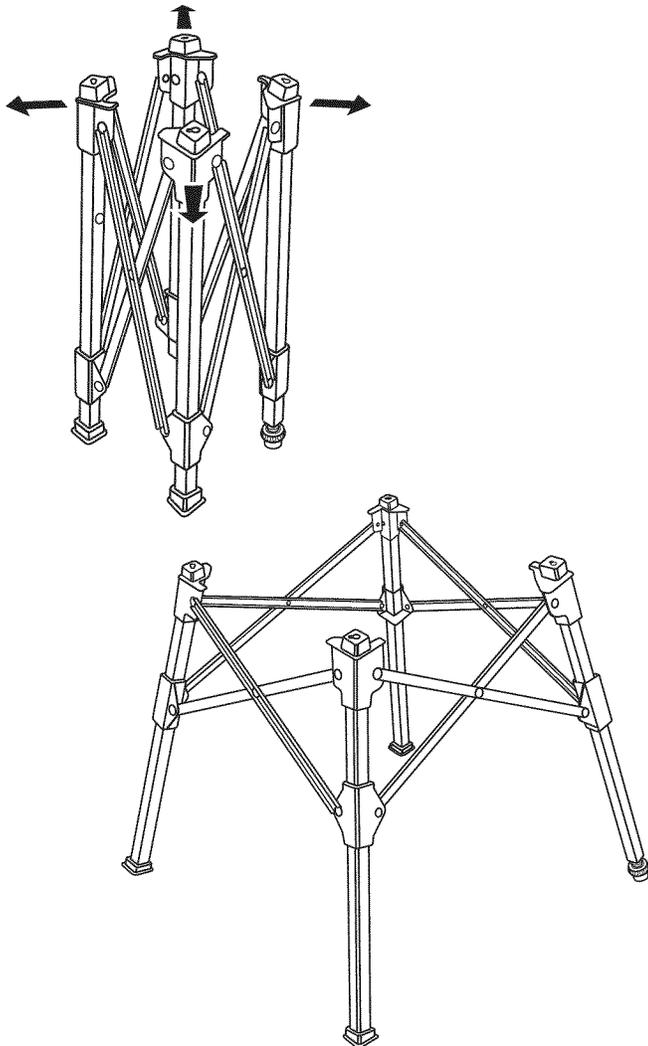

Fig. 9
See Figures 9 - 11.
- Place the leg stand on the floor then open the leg stand by pushing opposite legs in opposite directions as indicated by the arrows in figure 9.